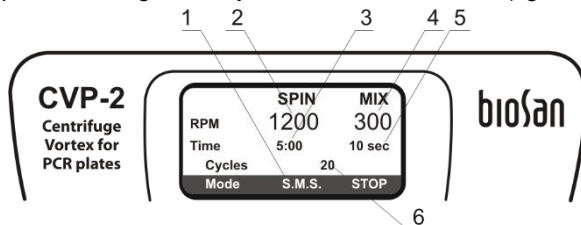

Fig. 3. Sms-algorithm
- 4.7.4. **Mode** (fig. 3/1) parameter can be one of the following:
- 4.8.1. Select the sms-algorithm (indication **S.M.S.** of **Mode** parameter, fig. 3/1).
- 4.8.2. Set the required centrifugation speed, from 300 to 1500 rpm (increment 100 rpm, fig. 3/2).
- 4.8.3. Set the required centrifugation time, from 1 s to 30 min (increment 1 s, after 1 min - 1 min, fig. 3/3).
- 4.8.4. Set the required vortexing speed, from 300 to 1200 rpm (increment 100 rpm, fig. 3/4).
- 4.8.5. Set the required vortexing time, from 1 to 60 s (increment 1 s, fig. 3/5).
- 4.8.6. Set the required sms-algorithm cycle count, from 1 to 999 (fig. 3/6).
- 4.9.6. Set the required sms-algorithm cycle count, from 1 to 999 (fig. 3/6).
- to open a powered unit, press **Open** key (fig. 3/1) and open the outer lid lifting it upwards by hand;